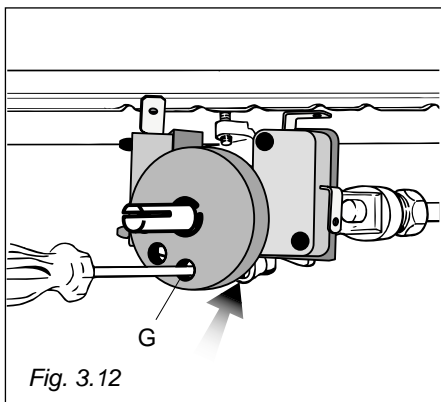

Fig. 3.12
- remove the knob and by a thin screw-driver (3 mm section - 100 mm long) unscrew of about a half turn the screw by-pass G, passing through the front panel hole (fig. 3.12)